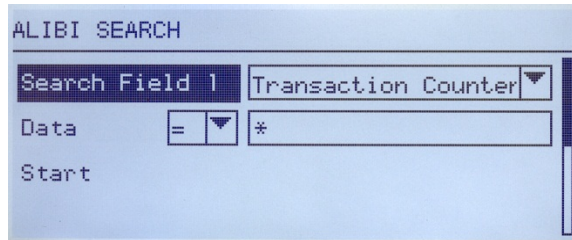

Figure C-1: Alibi Search Screen
2. The Search Screen displays. Figure C-1 shows Search Field 1 - the first of two Alibi memory search screens. Note the scroll bar at right, indicating the availability of a second screen. The second screen contains Search Field 2 and its associated data fields.